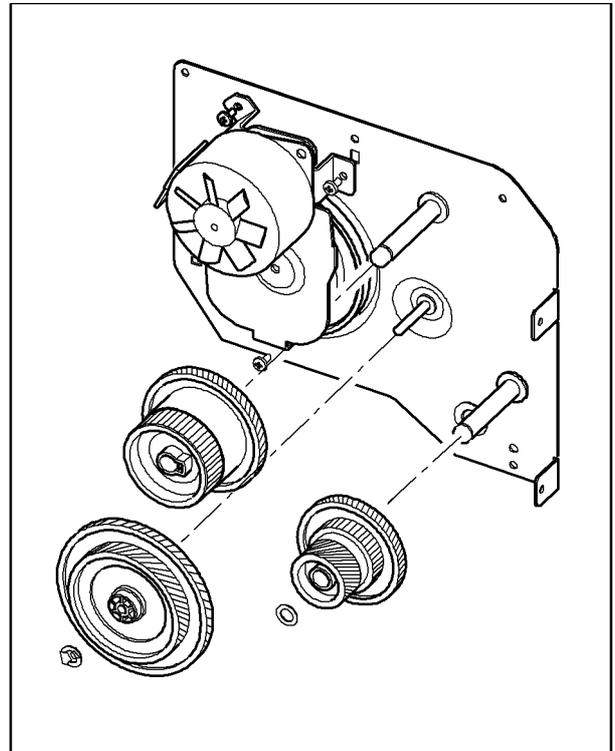

Figure 4
8. Remove the fuser drive gear, OPC drive gear, then the RDCN gear 113/83, Figure 4.